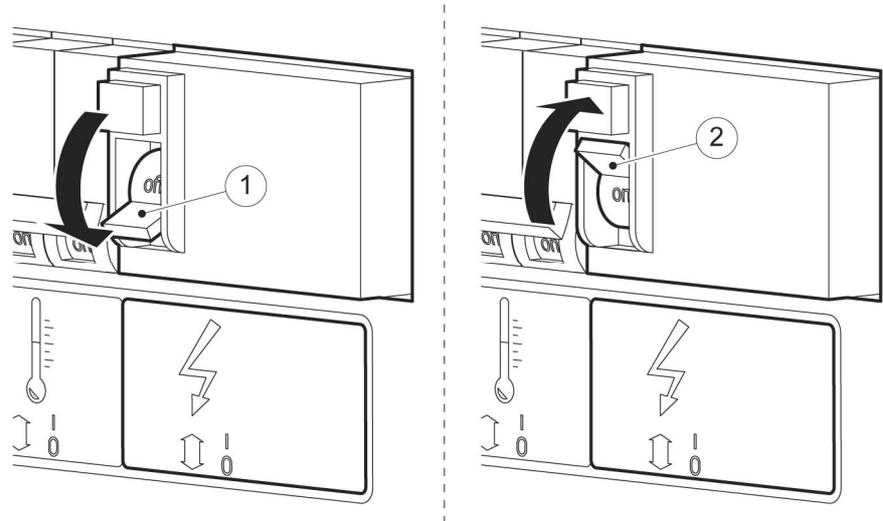

Figure 2: Reset the save-life switch
3. If the save-life switch does not operate immediately (the switch goes to the down position (fig. 2/1)), replace the save-life switch.
4. Set the save-life switch (2) to the up position.